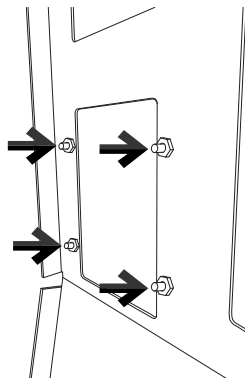

Figure 4
Step 3: Reach inside the enclosure compartment and remove the indicated cover plate from the backside, see *Figure 4*.